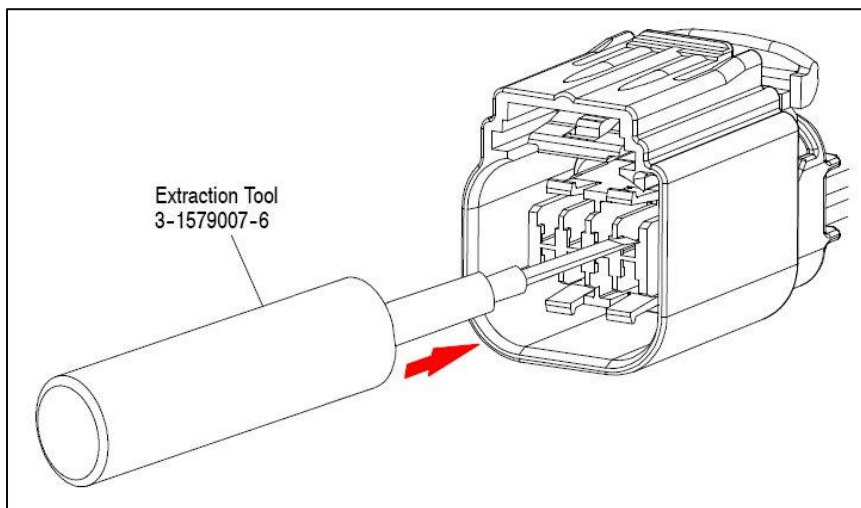

Figure 3-10. Removing Terminals from Connector
- b) Place the extraction tool under the beam that holds the contact in place as shown in **Figure 3-10**.